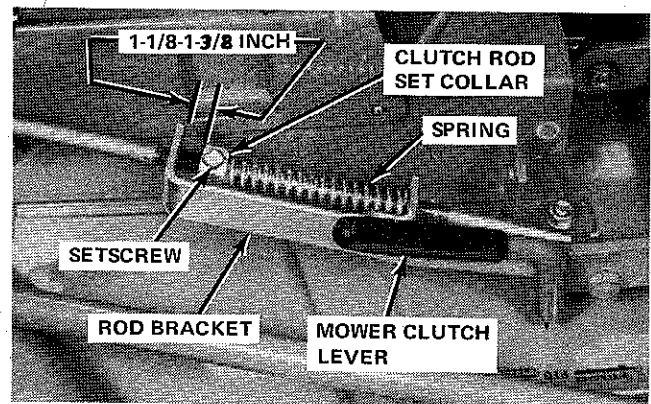

Figure 5-2. Mower Clutch Lever Adjustment
4. Mower Clutch Lever-Disengaged, lever up (Figure 5-2).
A. When mower clutch lever is engaged (lever down), there should be approximately 1-1/8-inch to 1-3/8 INCH clearance between clutch rod set collar and upper leg of rod bracket (Figure 5-2). If adjustment is necessary, loosen collar setscrew. As belt becomes stretched or worn, adjustment may be less than 1-1/8-inch.
When the mower clutch lever is in the forward or engaged position (Figure 5-2), the belt stop fingers contacting the belt should be 1/16-inch from the drive belts (Figure 6-11). If clearance is greater or less than 1/16-inch, reposition the belt stop by loosening the respective mounting nut and adjust stop in its slot accordingly. Belt stops should be at bottom of pulleys and must not rub on belt when belt is under tension.